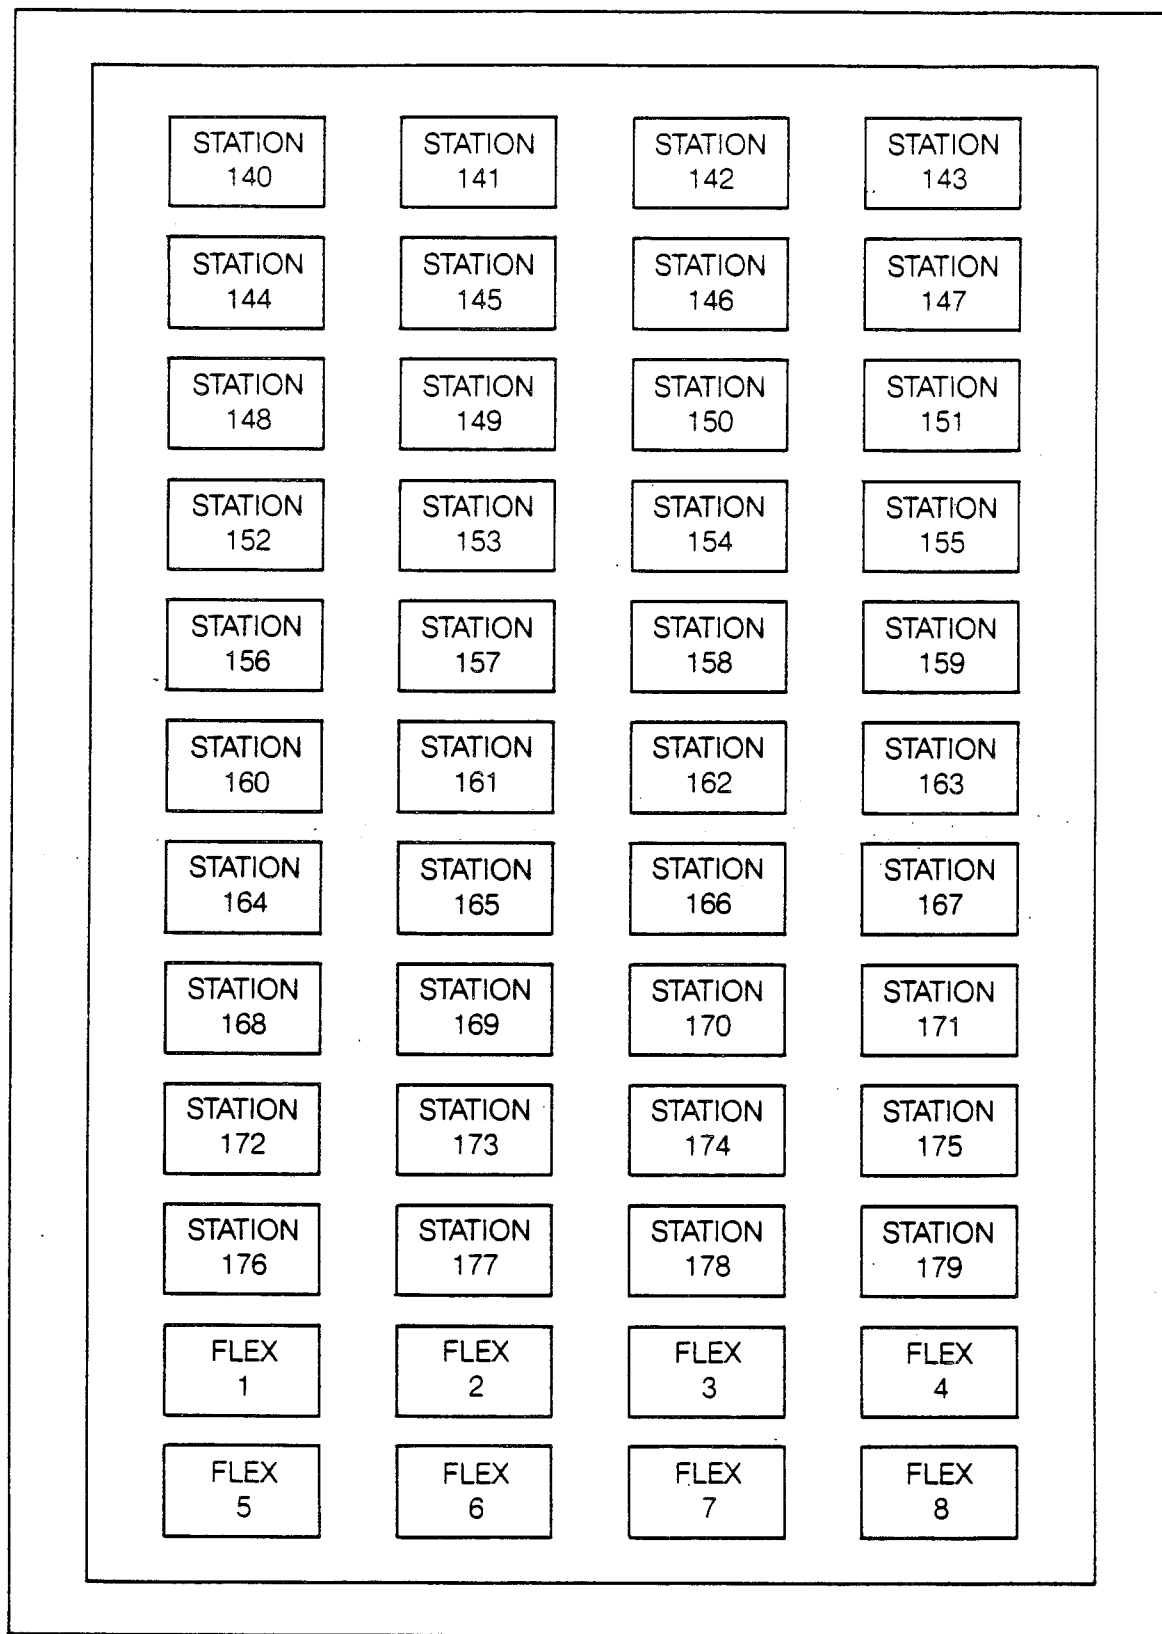

Figure 6-3 DSS/DLS Map 2 Button Assignments
- 2 = DSS with MAP 2 (Figure 6-3)